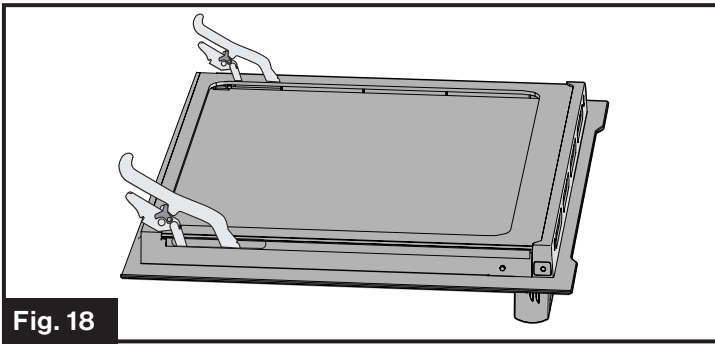

Fig. 18
5. Holding the door firmly on the left and right sides using both hands, pull the door straight out of the hinge slots. (Fig. 17 and Fig. 18)